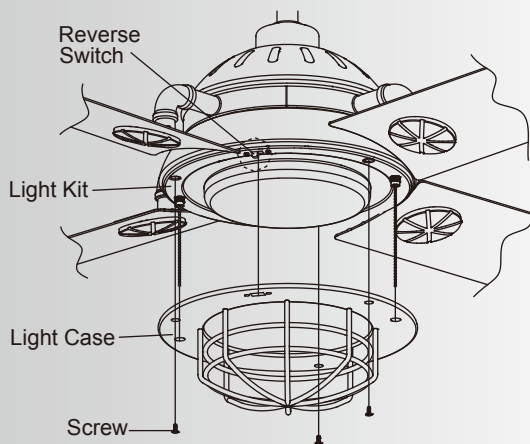

Fig. 22
Step 2. Let the reverse switch and 2 fobs through the holes on the light case. Attach the light case to the light kit by using the three flat head screws in hardware package. (Fig. 22)